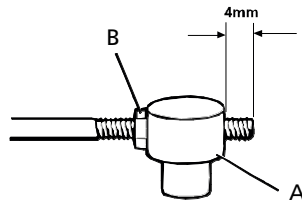

Fig. 7
- Thread the pivot (A fig.7) on to the rod until 4 mm of the rod protrudes (see fig. 7). Secure the pivot by tightening the nut (B fig. 7)
- Thread the pivot on to the rod until 4 mm of the rod protrudes (see fig. 7). Secure the pivot by tightening the nut. (B fig. 7)